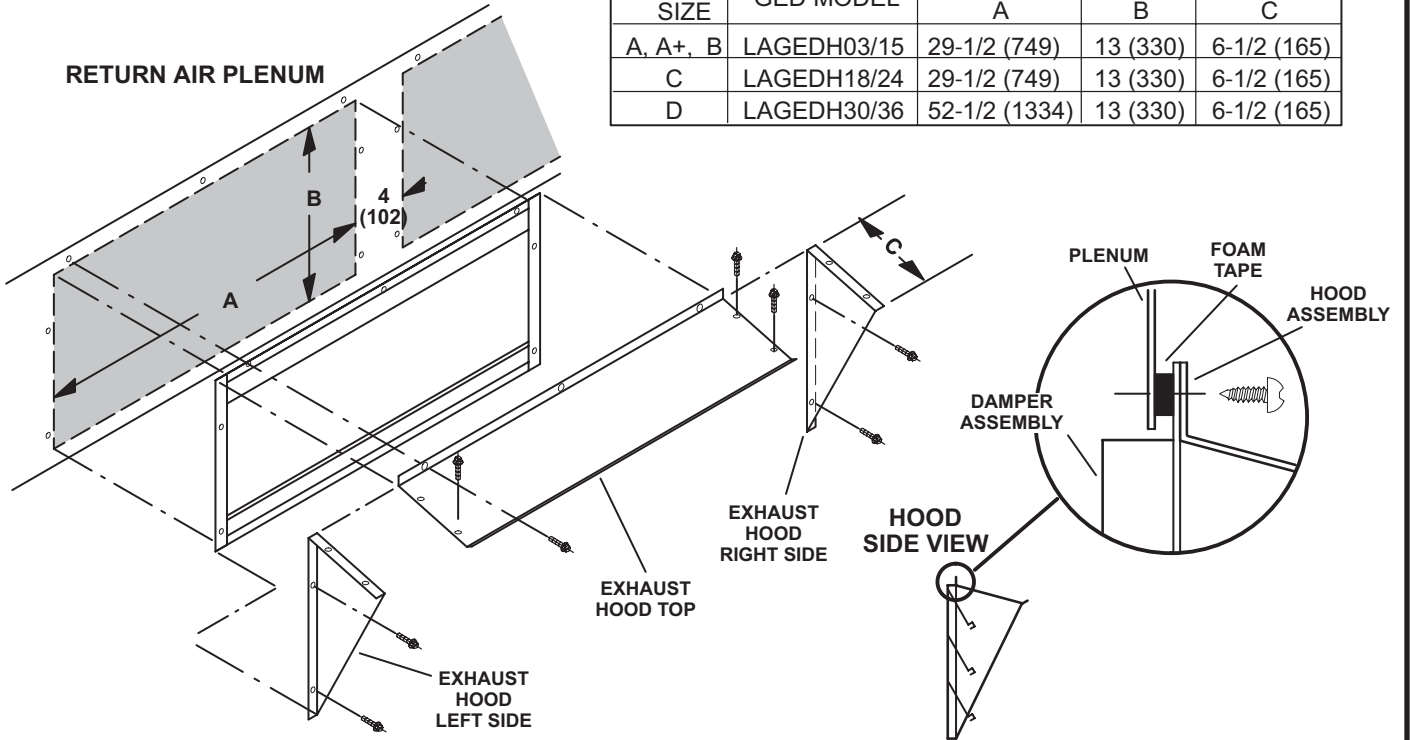

FIGURE 1
- 1 - Cut one opening in return air plenum on A, A+. and B box units and two openings in return air plenum on C & D box units. See FIGURE 1 for dimensions. Make sure opening is centered top to bottom in plenum. On C & D box units, gravity exhaust dampers may be installed either on opposing sides of plenum or adjacent to each other. If adjacent, allow a minimum of 4" (102mm) between the two openings.
- 2 - Secure hood sides to hood top as shown in FIGURE 1.
- 5 - Slide combined LAGEDH assembly into plenum opening and secure using screws provided. See FIGURE 1.